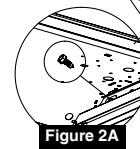

Figure 2A
4. Secure the end brackets to the existing fixture using the provided #8x1/2" self-drilling screws. (Fig.2A)